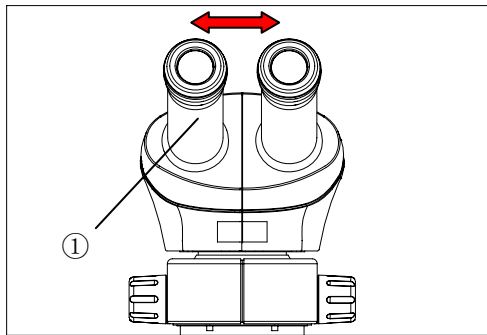

Fig.10
3.1.1 Adjusting interpupillary distance (Fig.10)